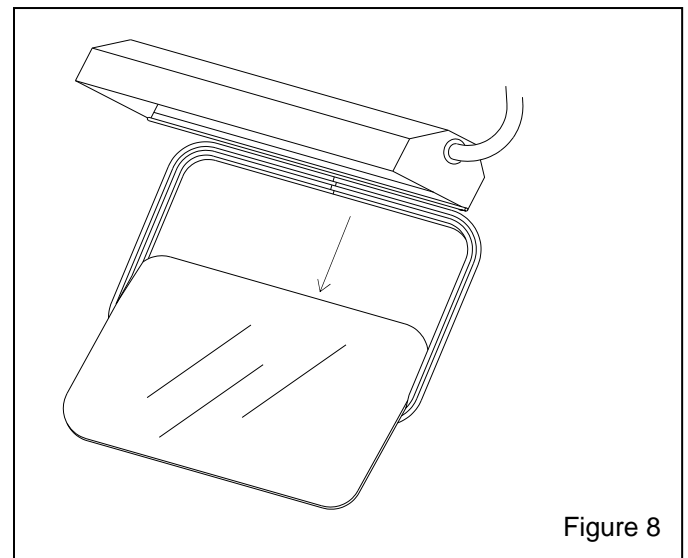

Figure 8
**6.3.4** Pull the window downward to remove the window from the molding, as shown in Figure 8.